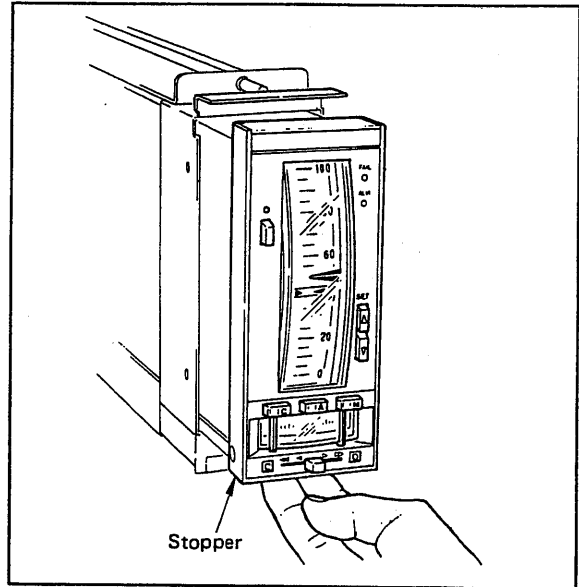

Figure 5-2-1. Removing Instrument Module.
- (1) To remove the instrument module, push up the stopper located below the front panel. When it is drawn out halfway, the instrument module is stopped by an intermediate stopper. (Figure 5-2-1).